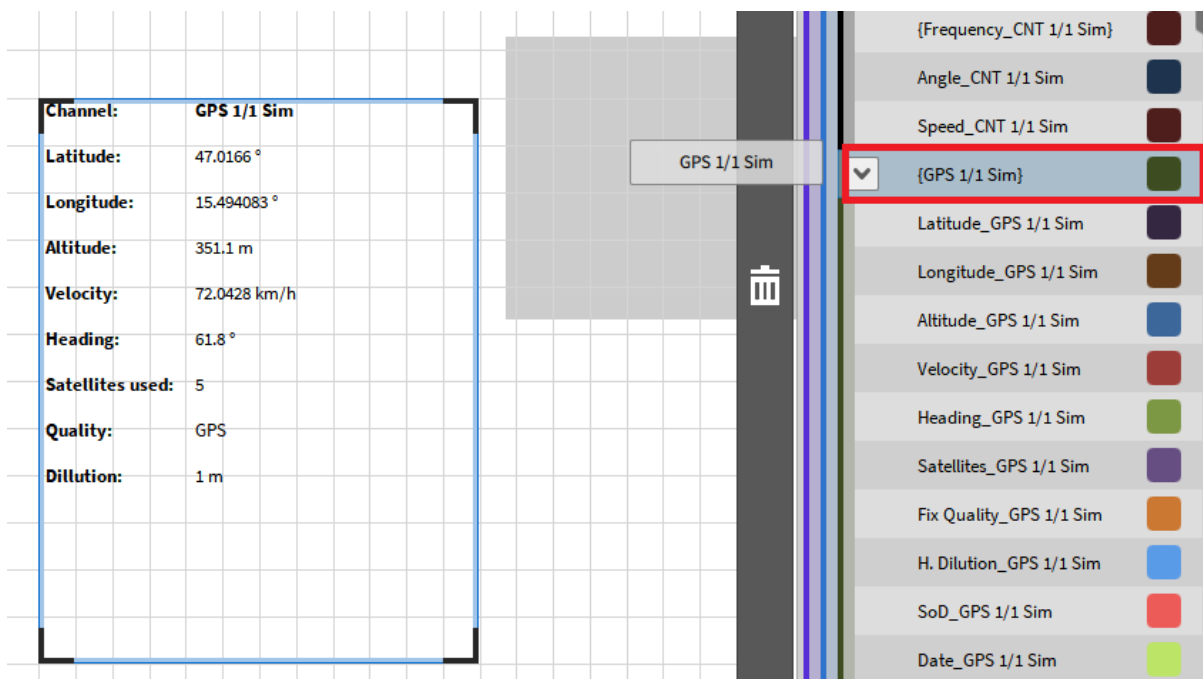

Fig. 7.217: Drag and drop the GPS channel to the measurement screen
*The channel *GPS* can be dragged and dropped directly from the Channel List to the measurement screen. If this is performed, the current value of the channels *Latitude*, *Longitude*, *Altitude*, *Velocity*, *Heading*, *Satellites used*, *Quality* and *Dilution* will be displayed (see Fig. 7.217).